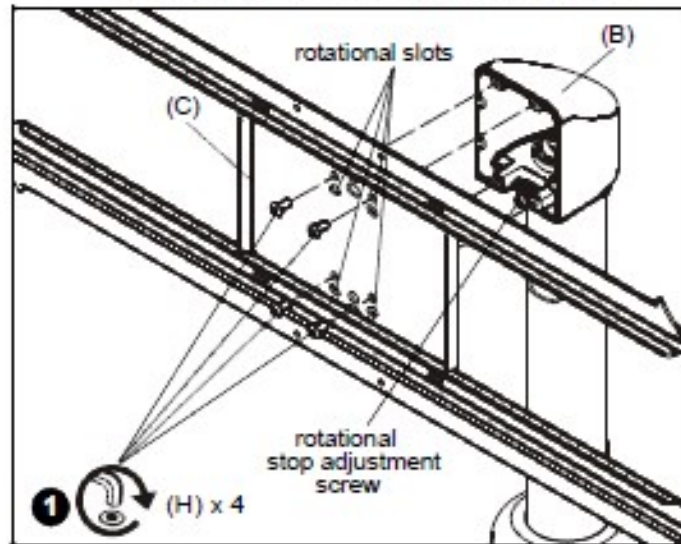

Figure 1
1. Use four 1/4-20 x 1/2" button head cap screws (H) to secure table stand (B) to table stand interface (C). (See Figure 1)
**NOTE:** If roll adjustment is desired, install through screws through rotational slots rather than the standard slots. (See Figure 1)
**NOTE:** In order to achieve a +/- 90° rotation radius while using the rotational slots, the rotational stop adjustment screw must be removed and replaced with #10-24 x 1/2" socket head cap screw (M). (See Figure 1)